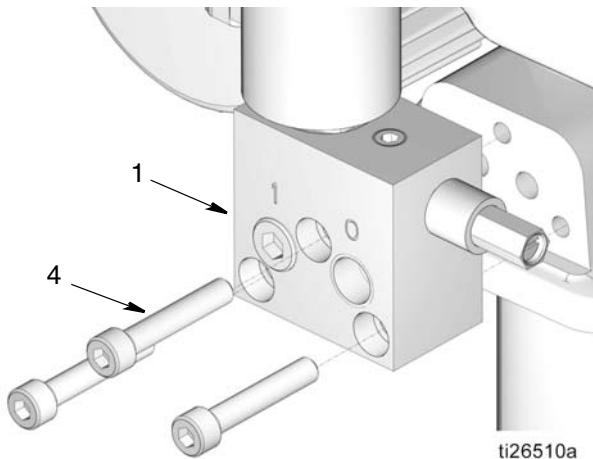

FIG. 5
8. Install vent valve (1) to pump surface using the 3 cap screws (4) included in the kit (FIG. 5). Hold the vent valve tight to the surface of the pump to ensure o-rings stay in place during installation. Torque screws to 17-19 ft-lbs (23-26 N.m).